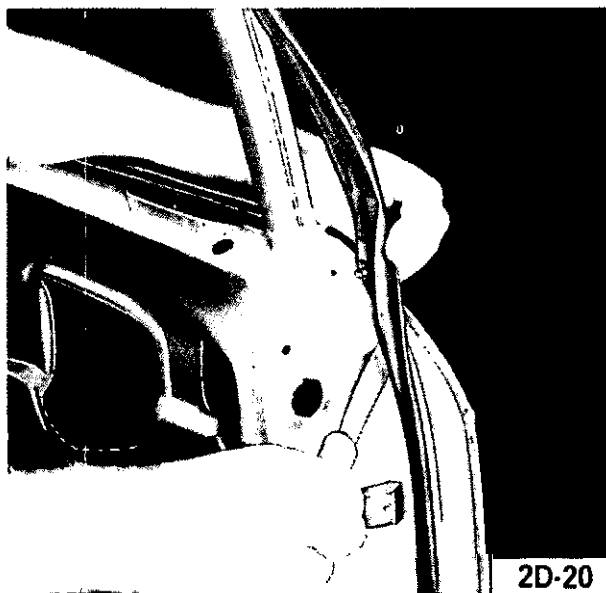

Figure 2D-20 Removing Door Weatherstrip
10. Remove door weatherstrip, using a clip remover. See Figure 2D-20.